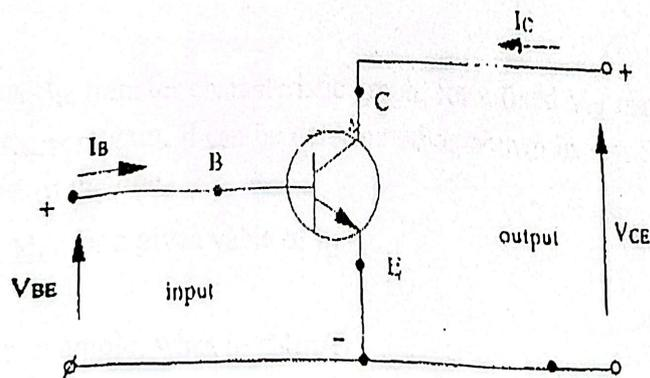

Fig. 5.1: Symbol of an NPN transistor in CE configuration
Every bipolar junction transistor (NPN or PNP type) has a base (B), an emitter (E) and a collector (C) as its electrodes. However, when the NPN transistor is connected such that the emitter is common to both the base-emitter input side and the collector-emitter output side, as shown in Fig. 5.1 then the transistor is said to be in common-emitter configuration.